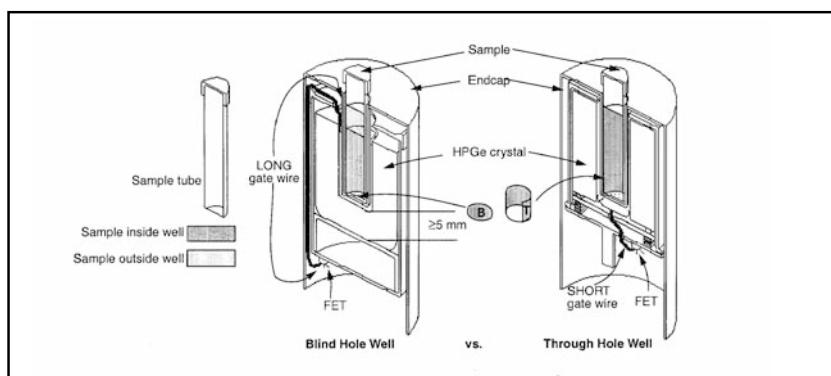

Figure 1: Cross-Section of the PGT Well Detector vs. blind hole well detector
Consider two equal sized crystals as shown in figure 1. The detector on the left is fabricated as a blind-hole well and the detector on the right as a through-hole well. Two factors affecting efficiency in a well detector are the sample size and the surface area of the crystal to which the sample is exposed. In figure 1 above, compare the crystal area at the bottom of the blind-hole (B) with the additional surface area (T) of the through-hole well. The blind-hole well detector will have a minimum of 5mm of solid crystal below the well. Thus there is at least an additional 5 mm of well length in the through-hole design.
The second factor affecting well detectors - resolution - is directly related to electronic noise. As shown in figure 1, the gate wire by which the detector signals are conducted to the FET is much longer for a blind well. The contact to the center electrode must be made at the front of the detector in the small space between the sample hole and the center contact, and the lead must go around the crystal to the FET at the back. Any movement in this lead due to external vibrations, however small, will cause a capacitance change at the FET input, which then appears as a microphonic signal at its output, resulting in peak broadening, poor peak detectability and therefore longer counting times.